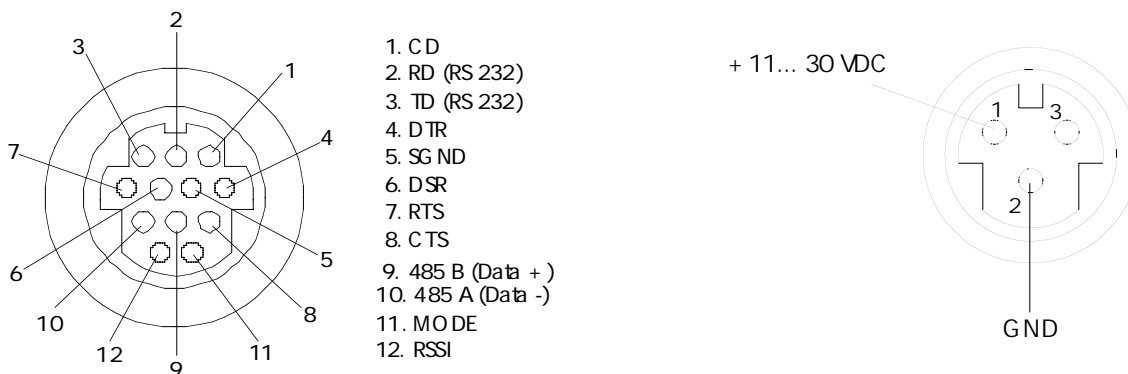
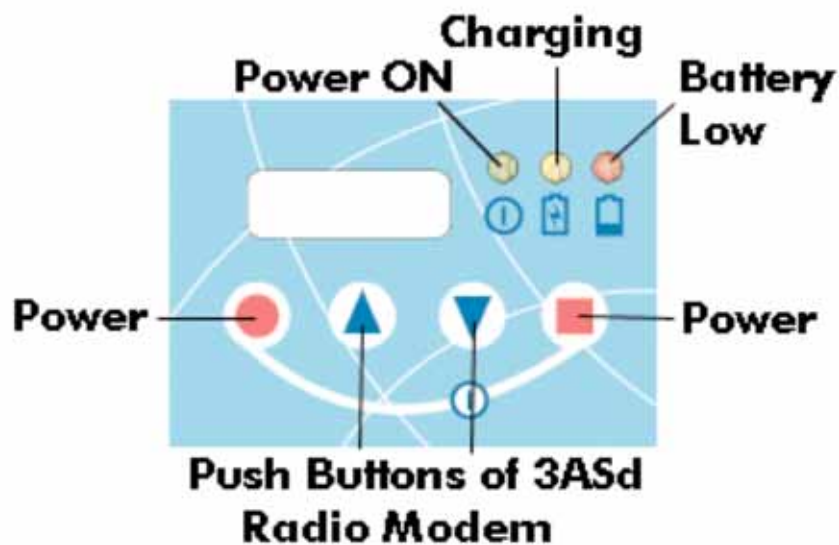

Figure 2. SATEL-321 connectors and pin layout.
Figure 3. SATEL-321 front panel with transparent window, pushbuttons and LED-indicators.
The SATEL-321 contains two connectors and also one weatherproof rubber feed through for the radio modem antenna connector. The connectors are located on the bottom cover of the casing. The pin layout and connector types of the casing are described in Figure 2.
The front panel of SATEL-321 contains the transparent windows and the tactile pushbuttons that enable the use of different SATEL radio modem (SATELLINE-2ASc, -2ASxE, -3AS(d) and -3AS(d) 869). SATELLINE-3ASd or 3ASd 869 may be programmed on the field without removing it from the SATEL-321 casing by using the LCD-display visible through the transparent window. Other models may be programmed without removing from the SATEL-321 casing by setting the radio modem in programming mode by using the MODE-pin which is internally connected from the radio modem D-connector to the SATEL-321 data connector at the bottom of the casing (see the left picture of the Figure 2). More detailed information can be found in the User Guide of the radio modem in question. LED-indicators on the front panel display the battery pack charging status, power ON status and the low battery condition. The front panel is shown in Figure 3.
**NOTE:** In case of customer made power supply arrangements, the customer is responsible for the correctness of the installation and the suitability of the components used. Connector pin layout is described in Figure 2 and more detailed instructions are listed in Appendix A.